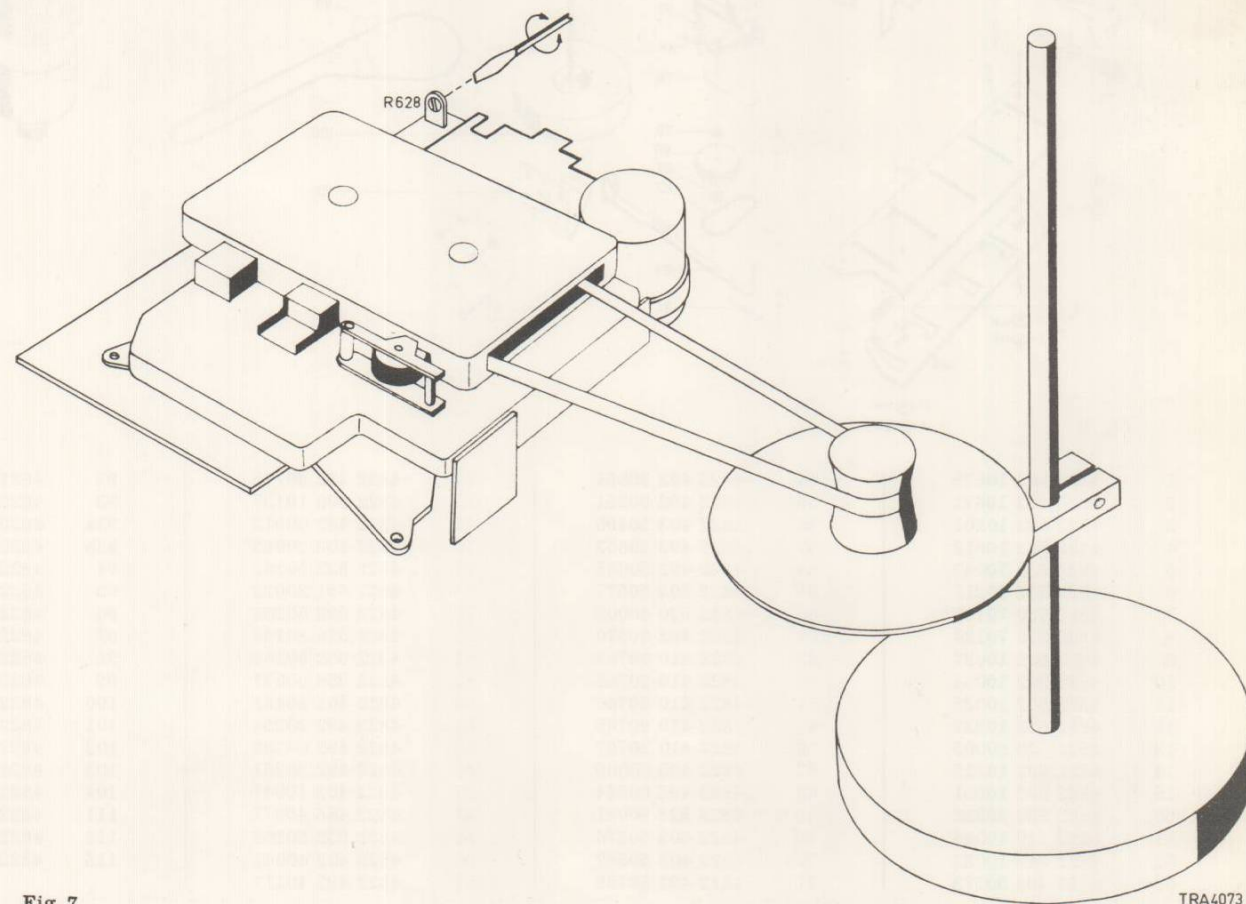

Fig. 7
2. With the aid of a stroboscopic disc, see Fig. 7
Remove the recorder from the cabinet and insert the cassette. Place a stroboscopic disc next to the recorder (for code number see "auxiliaries") and connect the set-up as shown in Fig. 7.
If the speed of the recorder is too low, check that the pressure roller, winding friction, flywheel etc., do not run heavily. After this, the speed can be adjusted with R628, see Fig. 7.